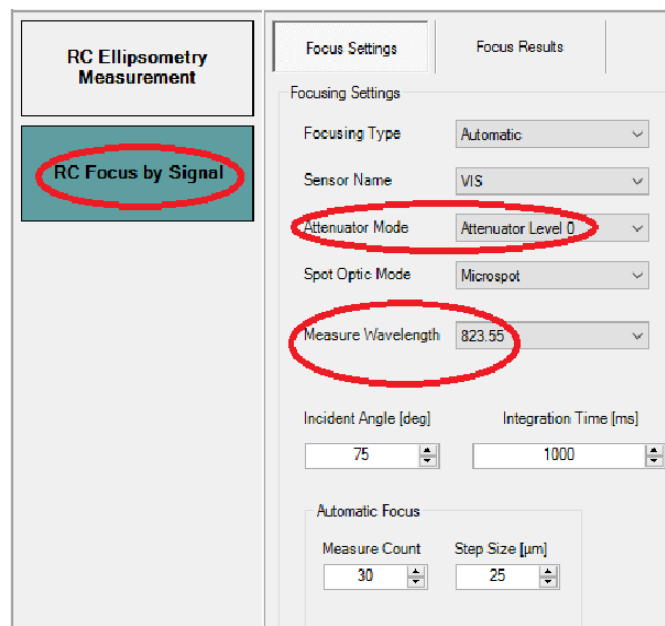

Figure. 19
- In “Manual” menu (Figure. 19)